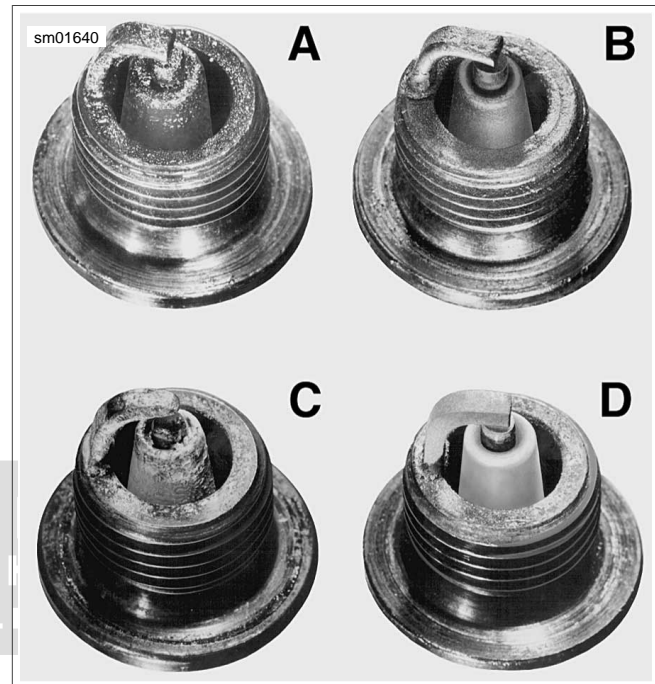

Figure 1-43. Typical Spark Plug Deposits
- See Figure 1-43. Compare your observations of the plug deposits with the descriptions provided below.